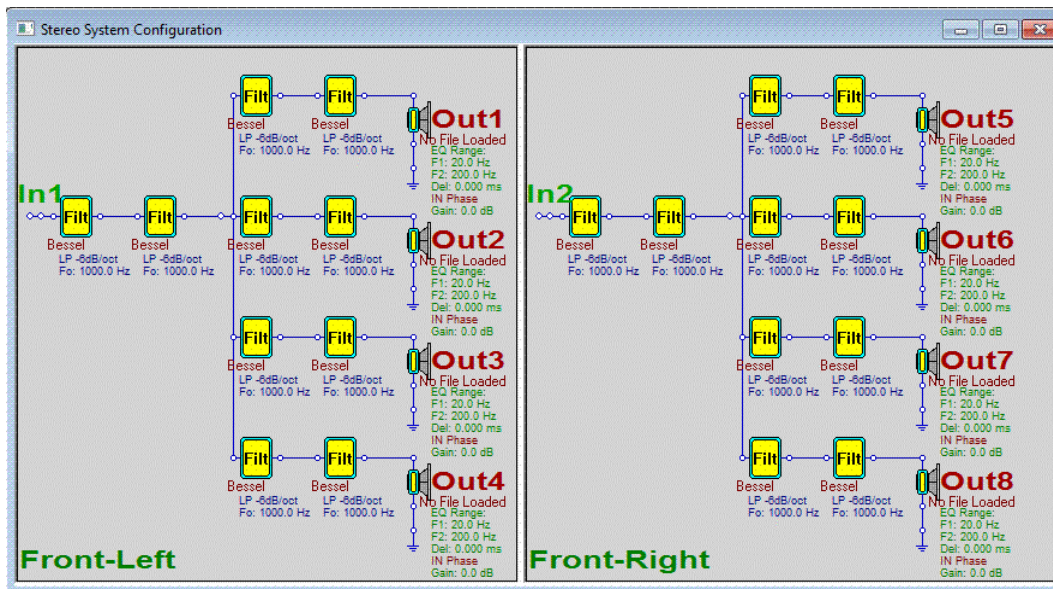

Figure 60. Stereo 2 x 4 way configuration.
- **Stereo 2 x 4 Way:** This option loads a default 2 channel stereo 4-waty system as shown in Figure 60.